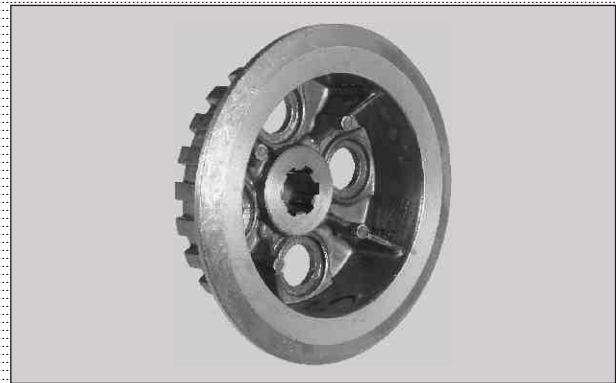

Fig. 3.20
- Inspect hub clutch for wear. If any ridges or cuts formed in the hub clutch by the clutch plates, then replace with a new one. Also check lubrication holes for any blockage. (Fig. 3.20)